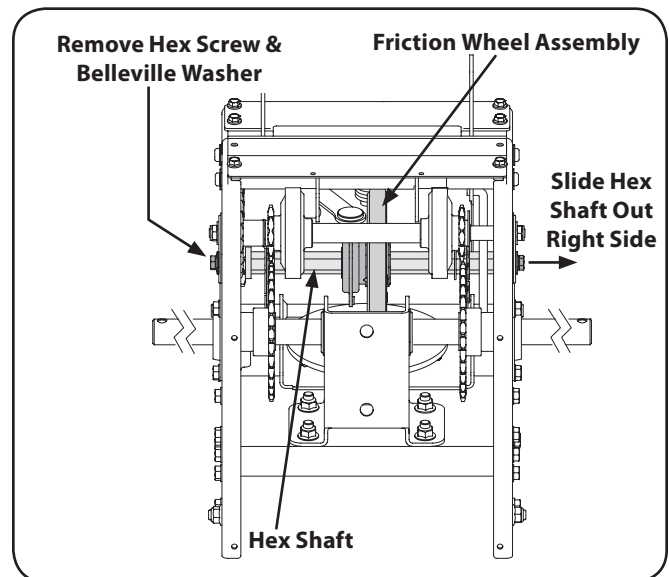

Figure 8-10
4. Using a 3/4" wrench, hold the hex shaft and remove the hex screw and belleville washer and bearing from left side of the frame. Refer to Fig. 8-10.